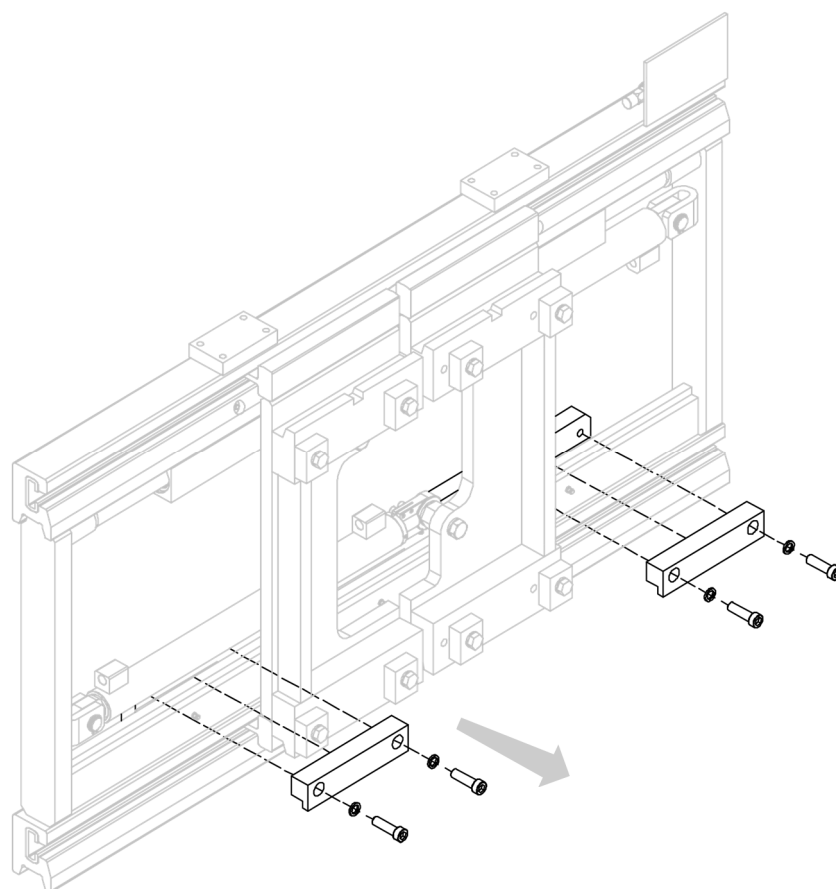

Figure 4
4. Remove the lower couplings that hold the front structure to the rear one (see *Figure 4*).